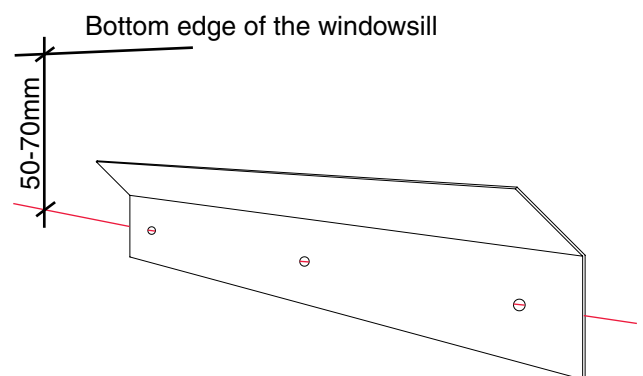

Figure. 2 Mounting rail and markings.
2. Screw the mounting rail in place (Fig. 2). The rail is supplied with the unit and is suited to the length of the unit. Height wise, the screw holes in the rail should line up with the markings on the wall. Lengthwise, the rail's centre point should be adjusted as per the drawing, e.g. below the middle of the window.